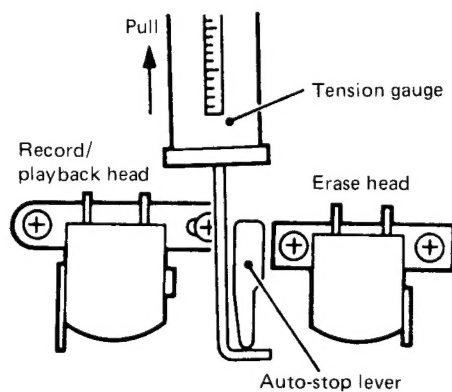

Fig. 10
- 2) Hang a tension gauge on the detection cap tip as shown in Fig. 10, then confirm that when this gauge is slowly pulled, the auto-stop lever operates in the range of 50-70 g.